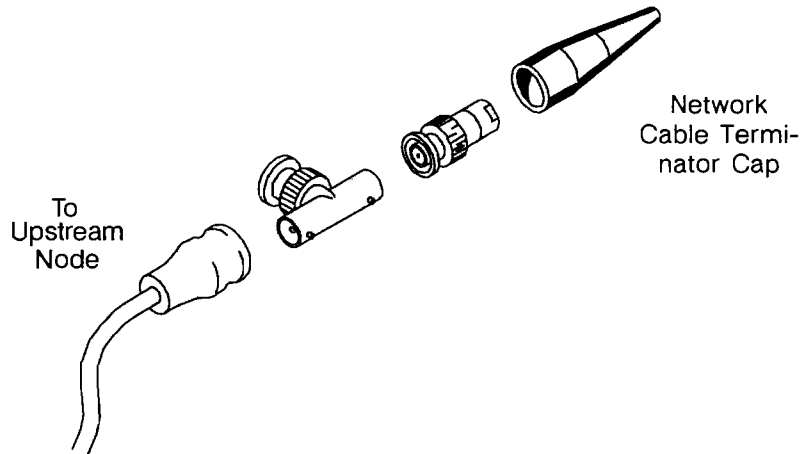

Figure 9-9. Connecting a Node at the End of an 802.3 Network Segment
3. Connect the network cable to the network side of the T-connector. If the system is at the end of the network segment, use a network cable terminator cap on the terminal end of the T-connector as shown in Figure 9-9. Attach the velcro pad.